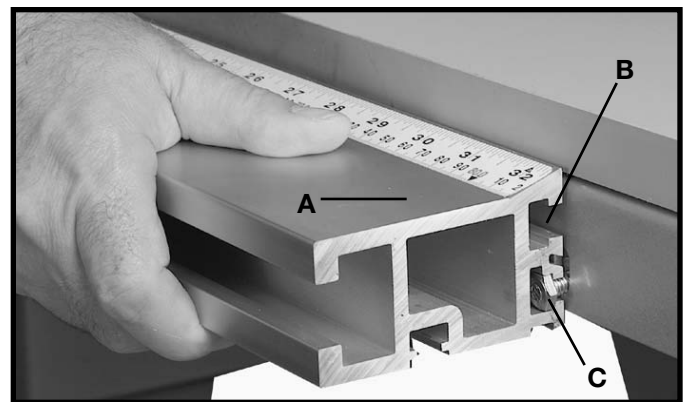

Fig. 61
4. From either end, slide the T-Slot guide rail (A) Fig. 61 on the hex head of the bolts partially inserted in step 2 and 3 above. **Note:** The bolt heads on the saw table, slide into the upper t-slot (B) Fig. 61 and the bolt head on the extension table slide into the lower t-slot (C) Fig. 61.